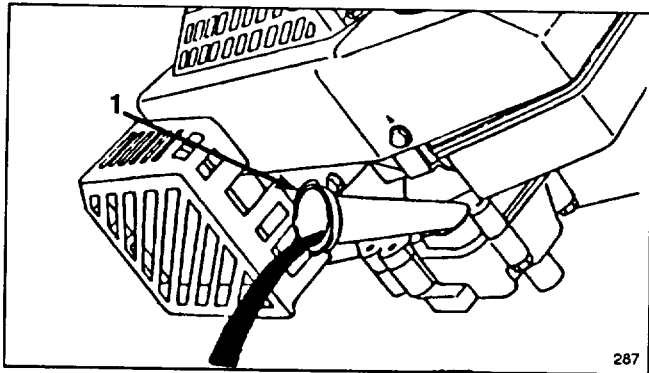

Figure 17
4. Tip mower on its left side, allowing oil to drain into drain pan (Fig. 17).